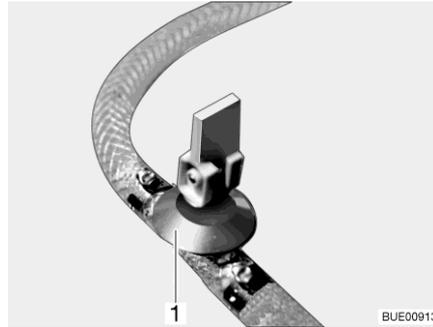
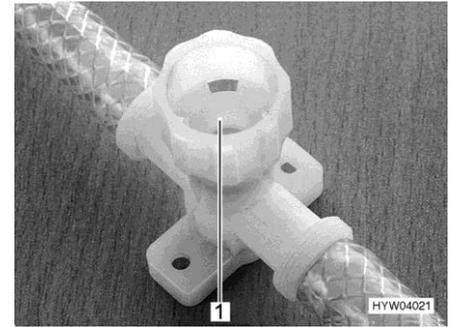

Fig. 277 Drain cock (with rocking lever)
Fig. 278 Drain cock (with twist cap)
- Open all drain cocks. To do this, position the drain cock's rocking lever (Fig. 277,1) vertically or turn the drain cock's cap (Fig. 278,1) in an anti-clockwise direction.